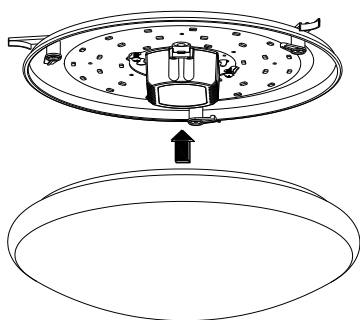

Fig. 5
6. Securely mount the fixture plate to the junction box firmly (figure 5).